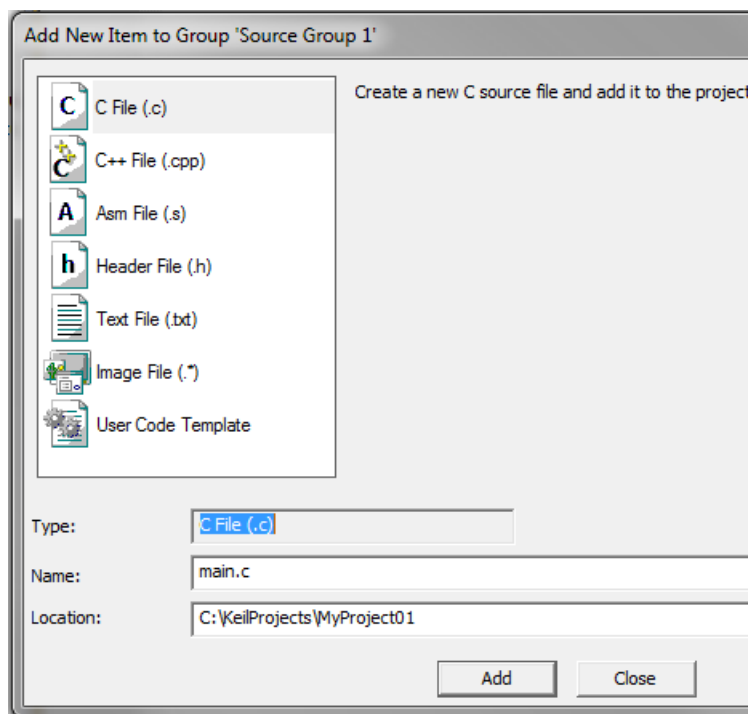

Figure 1-25. Adding new source file dialog
2. Select the C File (.c) option, and type a name of the file into the Name box, for example '*main.c*'. See Figure 1-25.